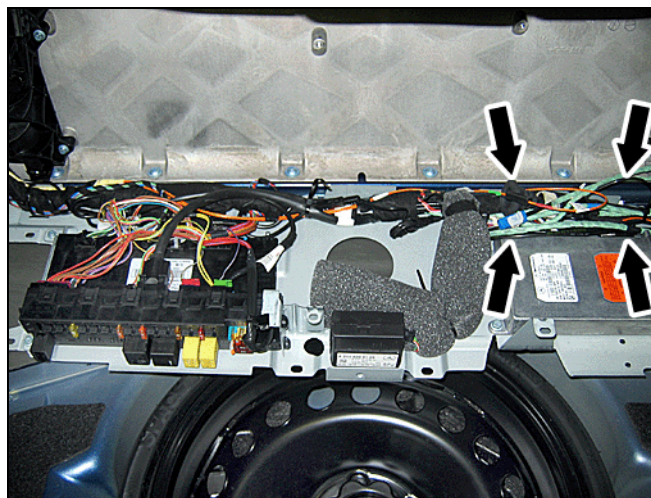

Figure 2
1. On the backside of the equipment carrier below the TELE AID control module, find the cables and connectors for the CAR NAVIGATION processor and antenna splitter secured at the bottom (Figure 2).